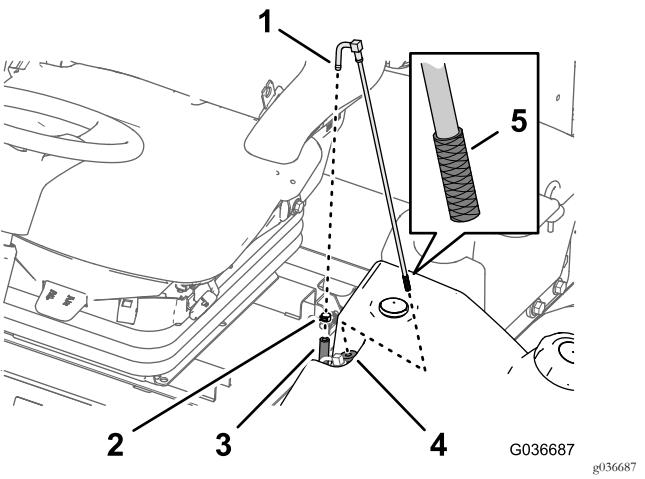

Figure 46
1. Remove the hose clamp that secures the fuel supply hose to the fitting of the fuel-pickup tube (Figure 46).
2. Separate the hose from the fitting (Figure 46).
3. Lift the fuel-pickup tube from the fuel tank (Figure 46).
4. Clean any debris from the screen at the end of the fuel-pickup tube (Figure 46).
5. Insert the fuel-pickup tube through the rubber bushing and into the tank (Figure 46).